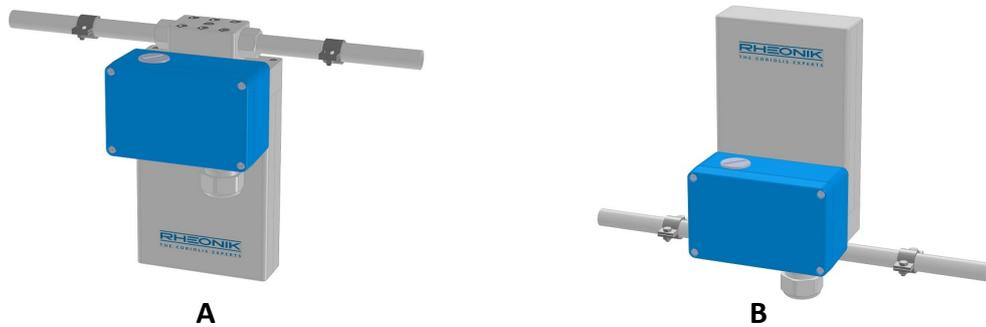

Figure 3: Installation positions for liquid (A) and liquid applications with solid particles/gas applications (B)
- *Liquid applications:* For liquid measurements, the RHM sensor should be installed at a low point in the pipe system with its measurement tubes pointing downwards as this will prevent gas bubbles collecting in the sensor. The presence of gas bubbles can reduce the performance of the sensor for both mass flow and density. See the recommended orientation in Figure 3 (A).
- *Liquid applications with solid particles in the fluid:* If there is a risk that the liquid contains (heavy) solid particles, the RHM sensor should be installed at a high point in the pipe system with its measuring loops pointing upwards to avoid the collection of the particles in the sensor. See the recommended orientation in Figure 3 (B).
Gas applications: For gas measurements, the RHM sensor should be installed at a high point in the pipe system with its measuring loops pointing upwards to avoid condensation or other liquids collecting in the sensor. See the recommended orientation in Figure 3 (B).